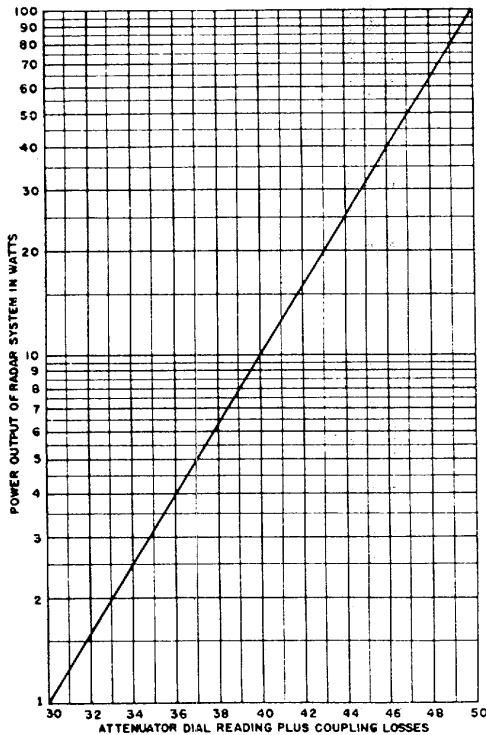

Figure 4-18. DBM to Watts Conversion Chart
a. If the rated transmitter average power is known in watts or kilowatts, it can be converted to dbm by use of the chart, figure 4-18. If the rated peak power is the known value, proceed as follows:
(1) Use figure 4-18 to convert rated transmitter peak power from watts or kilowatts to dbm to get the rated transmitter performance figure  $P_{pk(dbm)}$ .
(2) The following formula is used to convert the rated transmitter performance figure to rated average power:
From figure 4-18,  $P_{pk(dbm)}$  = +76.0 dbm (by extrapolation)